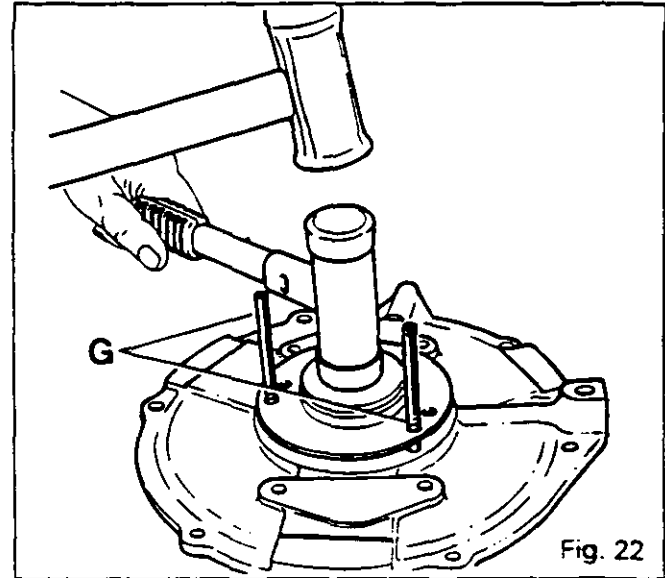
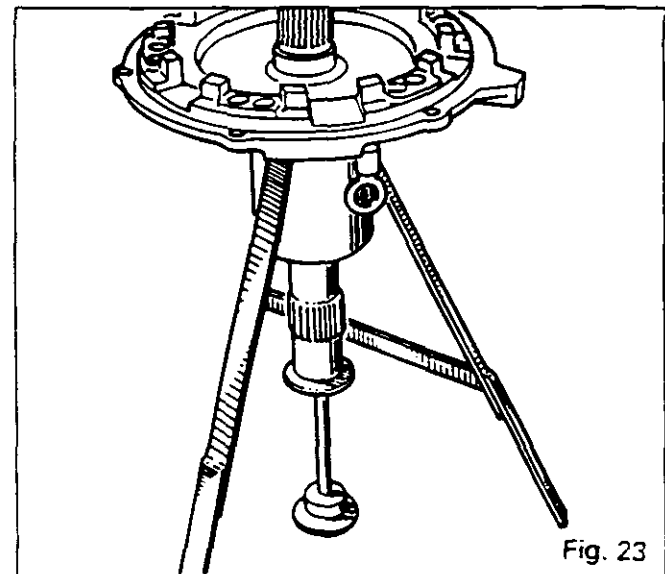

Fig. 22
Fig. 23
60. Coat the surface of the cover which contacts the support (11) with sealing compound.
61. Screw in two guide studs G. Position the support (Fig. 22) making sure that lubrication hole meets up with the corresponding passage in the cover (Fig. 22).
62. Fit the support into the cover (Fig. 22).
63. Remove the guide studs. Coat the screws (12) with Loctite 542, fit and torque to 14 - 20Nm.
64. Place the cover on a suitable support (Fig. 23).
65. Make sure that lubrication holes of the primary shaft (7) are not obstructed. Protect the splines to avoid damage to the seals /8\ and /9\ or /77\ (following type). Lubricate the shaft and slide it into the support from below. Retain the shaft in position using the locally made tool (Fig. 23).